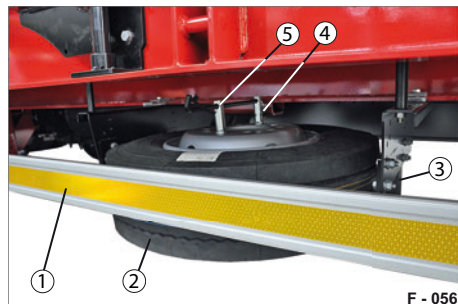

Fig. 90 Spare wheel storage (variety 2)
- ▶ Remove the padlock (Fig. 90/4).
- ▶ Put the spare wheel next to the spare wheel holder, and lift it onto the basket (Fig. 90/3).